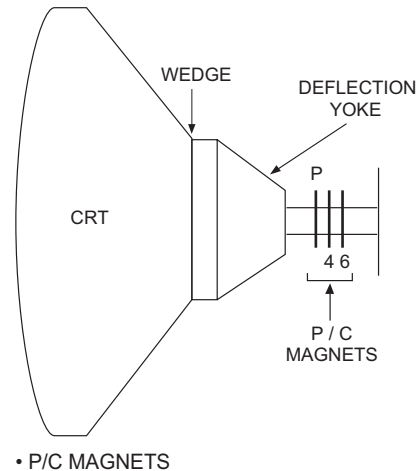

Fig.1
- (1) Input a crosshatch signal.
- (2) Using 4-pole convergence magnets, overlap the red and blue lines in the centre of the screen (Fig.1) and turn them to magenta (red/blue).
- (3) Using 6-pole convergence magnets, overlap the magenta (red/blue) and green lines in the centre of the screen and turn them to white.
- (4) Repeat 2 and 3 above, and make best convergence.